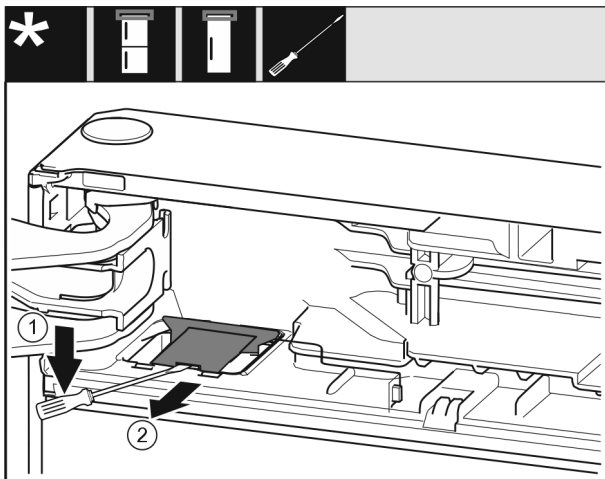

Fig. 9
- Use a screwdriver to snap out the cover *Fig. 9 (1)*.
- Pull out the cover *Fig. 9 (2)*.